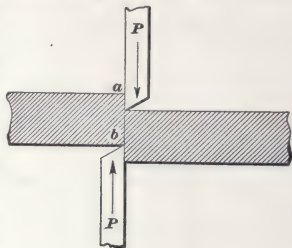

FIG. 6.
**48.** The **shearing strength** of any material is the resistance offered by its fibers to being cut in two. Thus, the pressure of the cutting edges of an ordinary shearing machine, Fig. 6, causes a shearing stress in the plane  $ab$ . The unit shearing force may be found by dividing the force  $P$  by the area of the plane  $ab$ .